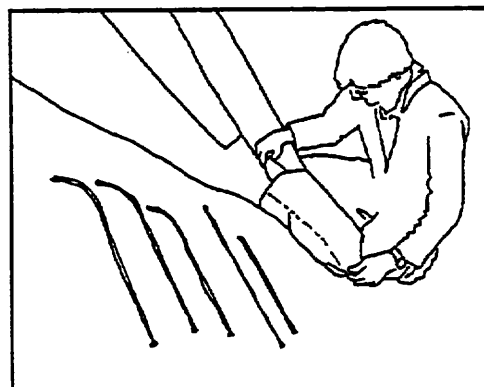

Figure 35
18) Remove the wingtip protector bags, and remove the plastic wingtip fairings from inside the bags. (Figure 35) Install the last three curved battens on each side.